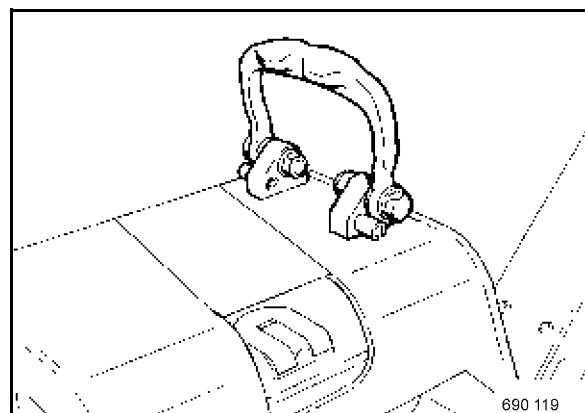

Fig. 32
- Fold the lifting hook (Fig. 32) up.